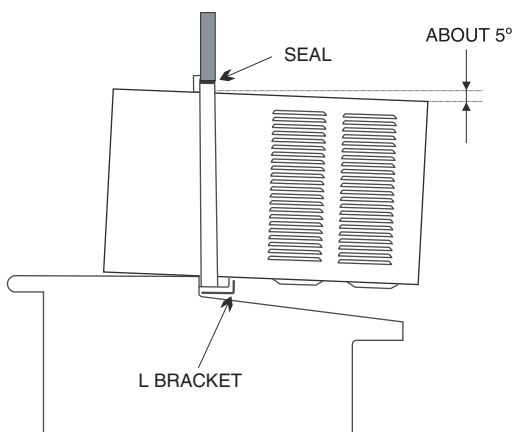

FIGURE 7 — AIR CONDITIONER INSTALLATION LOCATION
8. Place air conditioner in the window. The bottom channel of the air conditioner should be between the window sill and the L-brackets. Lower the window sash until it rests firmly behind the upper channel. Make sure the top and bottom of the cabinet fits snugly to the window opening. See Fig. 7.